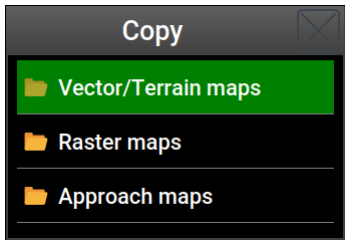

Figure 9.17: Type of file to search for.
**Copy** copies a file with `kus`, `ras`, `nam` or `lic` extension from an USB memory stick. All these files are in Kanardia specific format. A new window appears asking for intended copy action, Figure 9.17. Vector maps have `kus` extension, raster maps use `ras` for the maps and `lic` for licenses and approach maps expect `nam` extension.